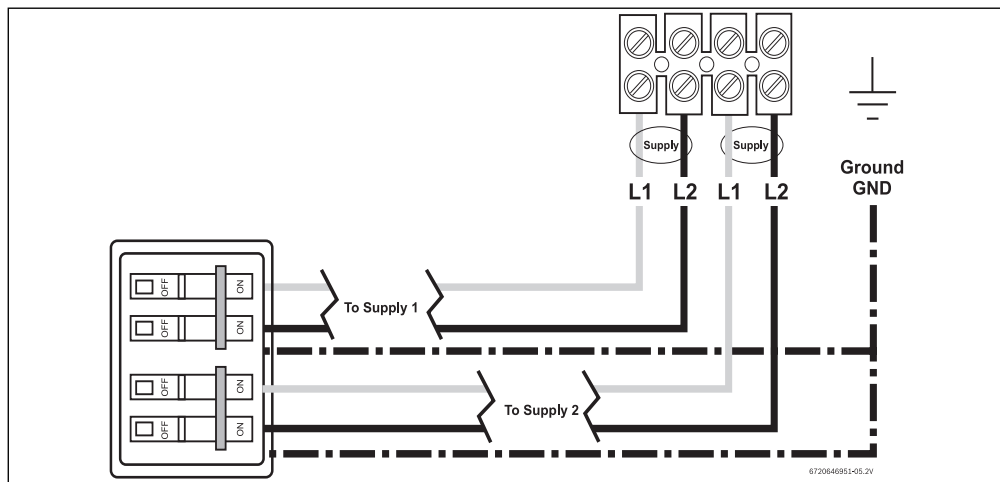
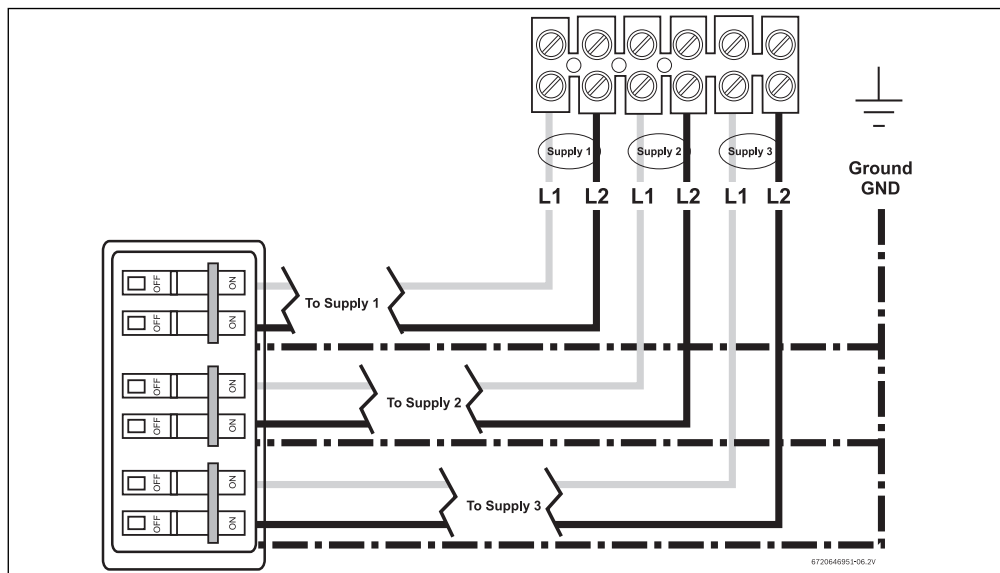

Fig. 7 WH17 terminal block connection (U.S.A. only)
Fig. 8 WH27 terminal block connection (U.S.A. only)
- Strip back the insulation on the power wires about  $\frac{1}{2}$  inch. Connect the live wires to the terminals marked "L1" and "L2." There are two pairs of live wires in the WH17 and three pairs of live wires in the WH27. (→ See Fig. 7 and Fig. 8, page 15).
- Any insulation on the ground wires should be stripped back about  $\frac{3}{4}$  inch. The ground leads must be connected to the pillar terminal marked "GR". (→ See Fig. 7 and Fig. 8, page 15).